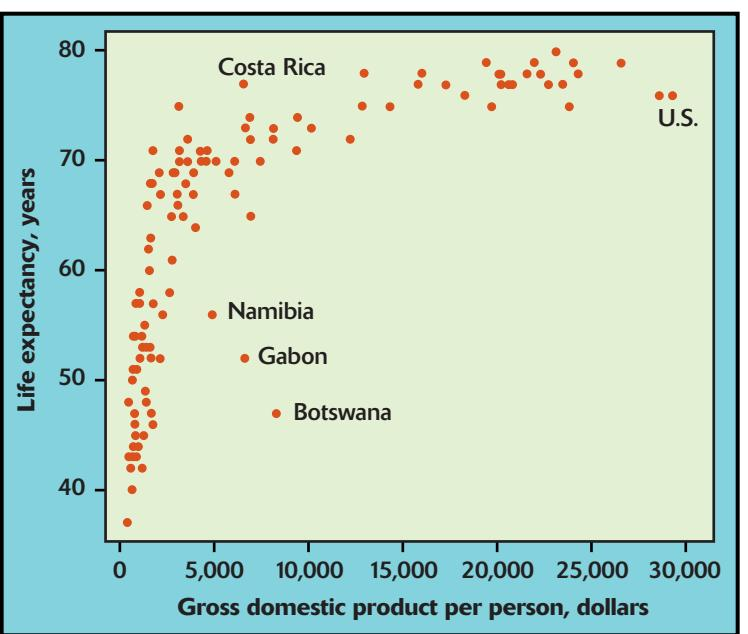

FIGURE 2.7 Scatterplot of life expectancy against gross domestic product per person for all the nations for which data are available, for Exercise 2.10.
- 2.10 **Health and wealth.** Figure 2.7 is a scatterplot of data from the World Bank. The individuals are all the world's nations for which data are available. The explanatory variable is a measure of how rich a country is, the gross domestic product (GDP) per person. GDP is the total value of the goods and services produced in a country, converted into dollars. The response variable is life expectancy at birth.⁵ We expect people in richer countries to live longer. Describe the form, direction, and strength of the overall pattern. Does the graph confirm our expectation? The three African nations marked on the graph are outliers; a detailed study would ask what special factors explain the low life expectancy in these countries.